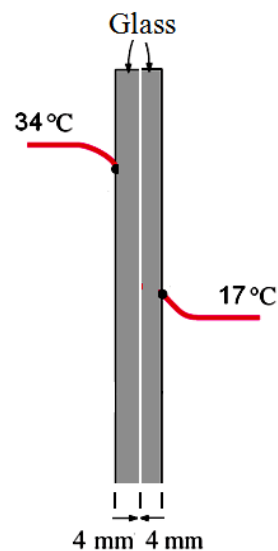

Figure Q3b
- (f) The U-value coefficient ( $\text{W}/\text{m}^2 \cdot ^\circ\text{C}$ ) for two glasses only (without air gap) as shown in figure Q3b. (4 marks)